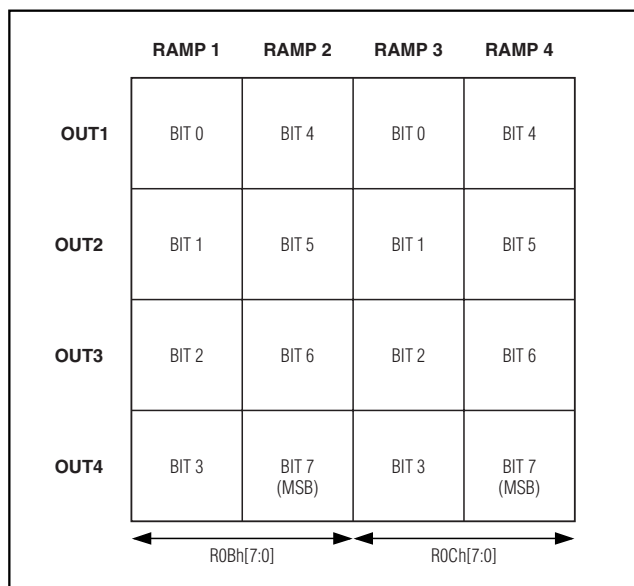

Figure 6. Mapping Tracking and Sequencing Modes
intended to provide only tracking for the four supplies (only one ramp is generated). To control one particular channel, insert a "1" in any of the four possible positions (one row for each channel contains 4 bits) and the circuit will generate the proper signals (see Figure 6).
To configure tracking and sequencing modes, insert "1" and "0" into the 0Bh and 0Ch registers (see Table 2). Figure 6 shows how to map for tracking and sequencing modes. Each  $\text{OUT}_x$  output can follow one of the four possible ramps in tracking or sequencing mode (16 bits are available) and one bit set to "1," means that the channel of the interested row is powered up/down by the corresponding ramp (see Figure 6).
- 1) If the depicted table (in Figure 6) is made by all "1s," the part simply generates a single ramp (all channels in tracking mode since the first column is full of "1s," and it ignores the remaining values of the other 12 bits.